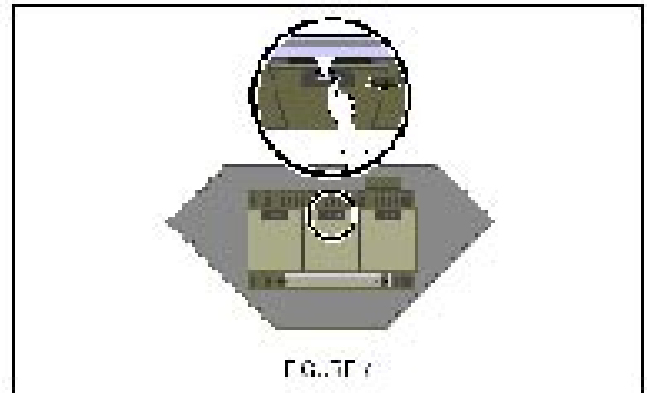

FIGURE 7
2. Remove the grease filters from the unit and set aside. The grease filters are removed by pressing the handle in front of the filter as indicated in FIGURE 7. When replacing, make sure that the filters are properly positioned with the handles in front and visible.